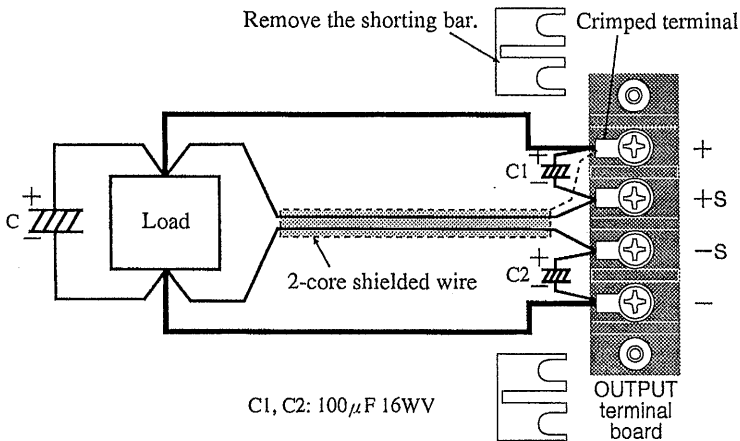

Fig. 3-1A Remote sensing connection
- ① Turn off the OUTPUT switch.
- ② Turn off the POWER switch.
- ③ As shown in Fig. 3-1A, remove the sensing shorting bar.